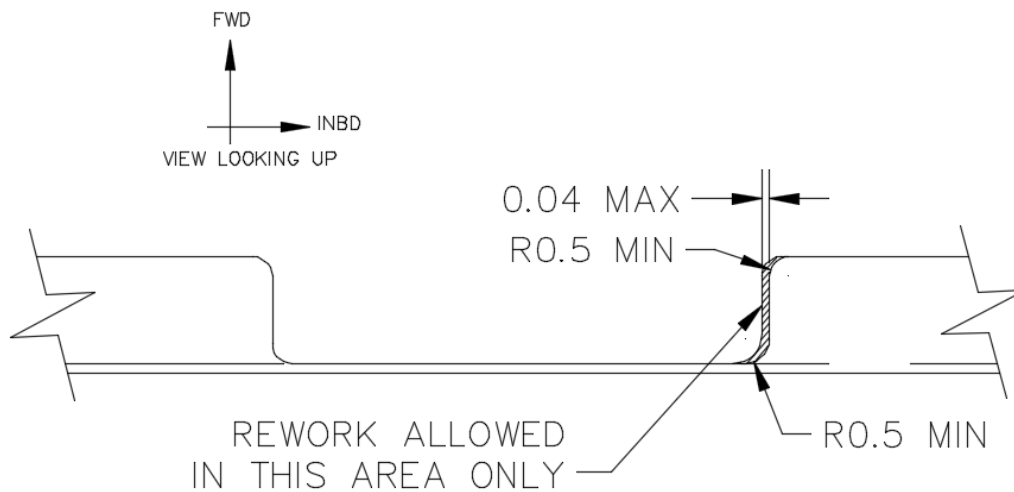

Figure 9 – Allowable rework to Front Spar flange(s) edge
- If there is no clearance between the Wing Strut Fitting and the Front Spar flange(s), remove material from the edge of the Front Spar flange(s) by blending as shown in Figure 9.